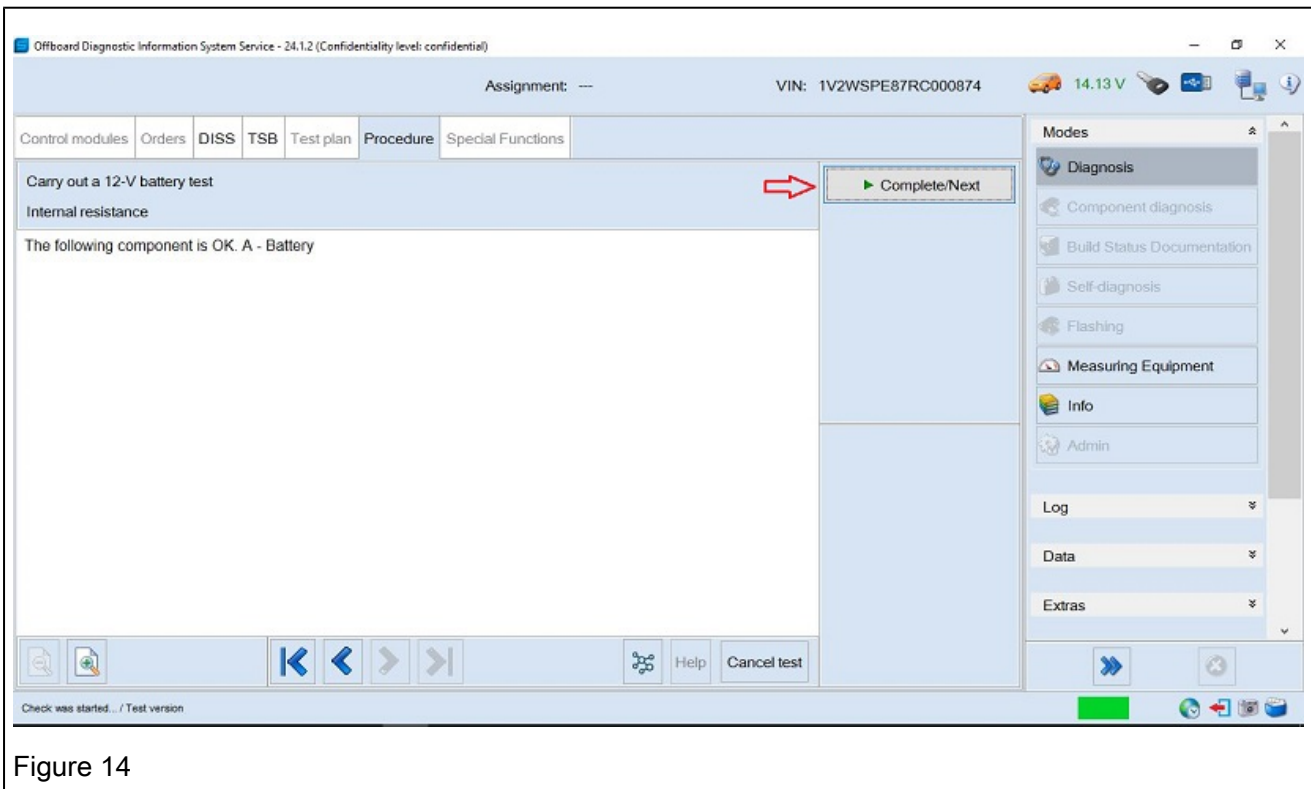

Figure 14
14. This screen will display 12V battery Pass/Fail. Once you depress the Complete/Next button the 12V battery test is complete (Figure14).